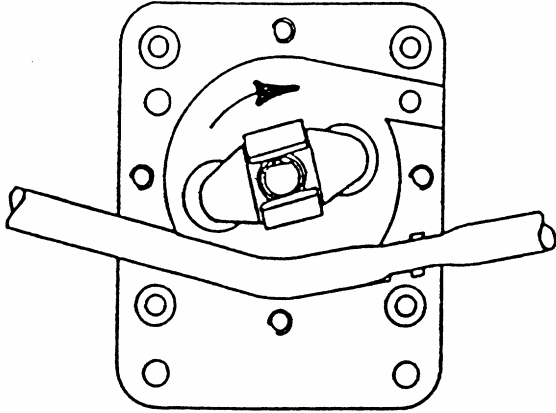

FIG. 1
- 6) Position roller bracket assembly as shown in fig. 1.
- 6) Position roller bracket assembly as shown in Fig. 1.